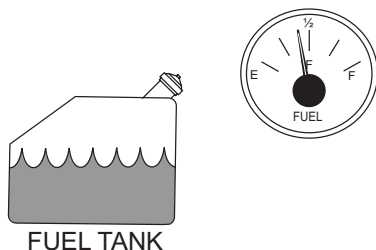

Figure 41. Full Fuel Tank
3. **NEVER overfill the fuel tank** — It is important to read the fuel gauge when filling the fuel tank. **DO NOT** wait for fuel to rise in the filler neck (Figure 41).